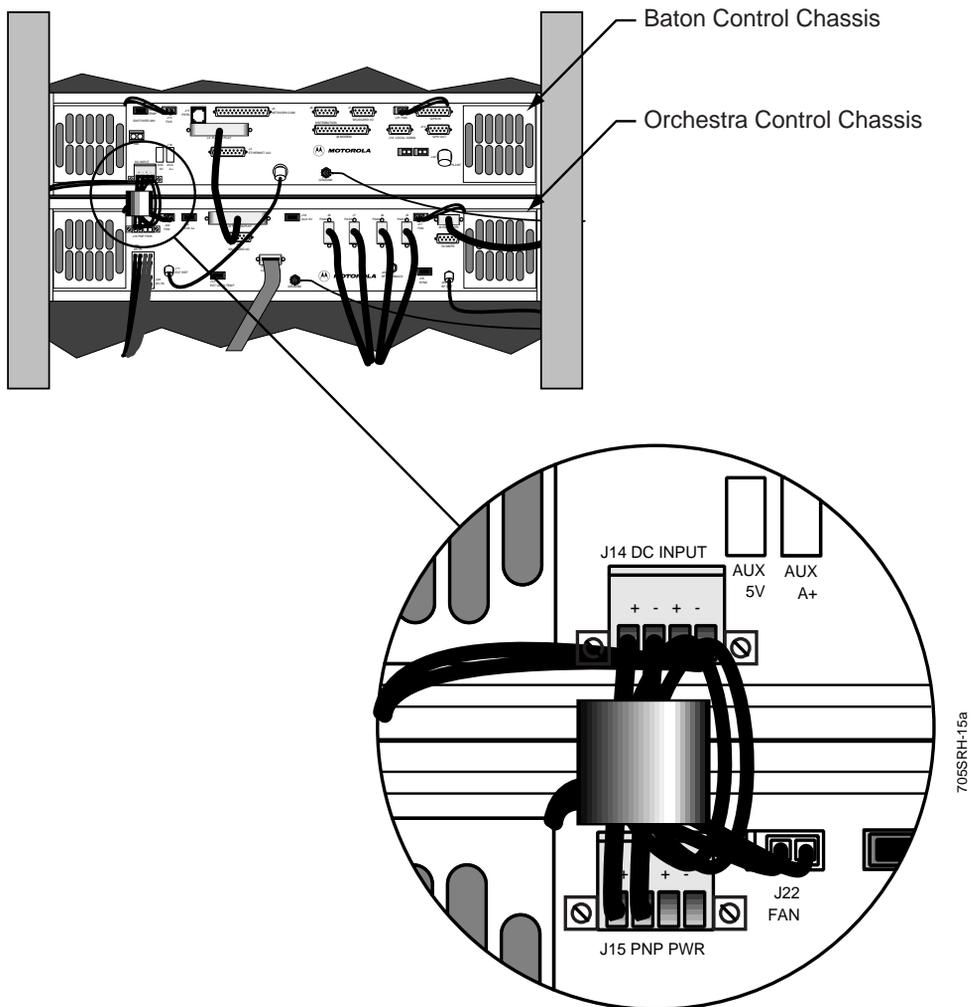

Figure 6-8: Rear View of BCC and OCC
5. Loosen the two screws securing the connector to J14 on the baton control chassis (BCC) back panel (see Figure 6-8).
- Loosen the two screws securing the connector to J15 on the orchestra control chassis (OCC) back panel (see Figure 6-8).
3. Connect the connector with two wires to J15 on the OCC and tighten the screws (see Figure 6-8).